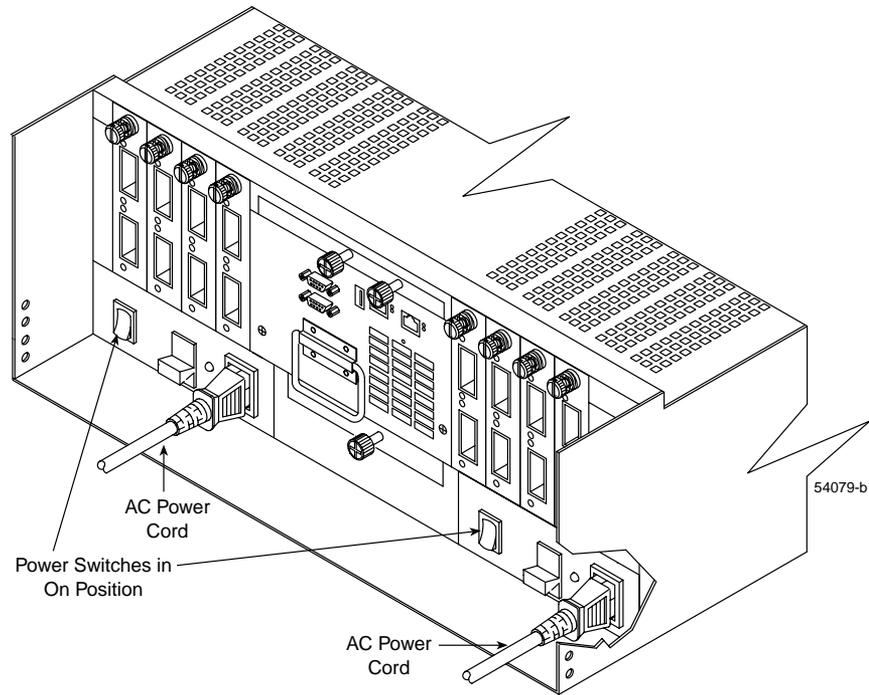

Figure 3-2 Turning the Power On
2. Turn on both power switches on the rear of the controller enclosure (Figure 3-2). You must turn on both switches to take advantage of the redundant power supplies. Then, go to “Checking the Controller Enclosure Indicator Lights” on page 36.
4. Once the air temperature is below the upper operating temperature of 45° C (113° F), turn on both power switches on the rear of the controller enclosure (Figure 3-2). You must turn on both switches to take advantage of the redundant power supplies. Then, go to “Checking the Controller Enclosure Indicator Lights” on page 36.
2. Turn on the power (Figure 3-2 on page 31).
- c. Turn on both power switches on the rear of the controller enclosure (Figure 3-2). You must turn on both switches to take advantage of the redundant power supplies. Then, go to “Checking the Controller Enclosure Indicator Lights” on page 36.
3. Turn off the power switches on the rear of the controller enclosure (Figure 3-2).